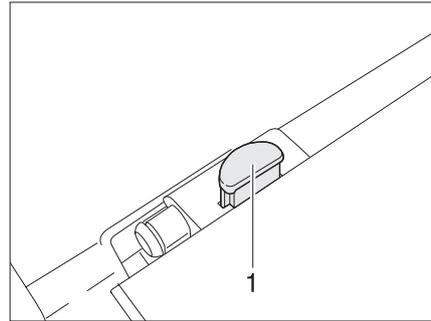

Fig. 41 Table-top lock
- ▶ Press the release knob (Fig. 41,1) at the locking mechanism of the table-top.